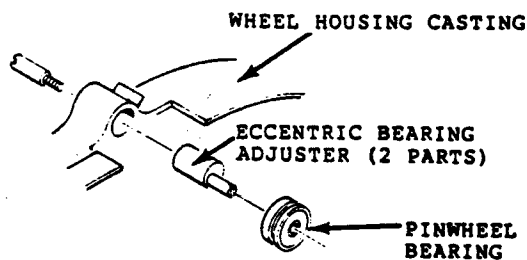

Figure 4-8
- 5) If it is necessary to bring the pinwheel surface out to be flush with the wheel housing casting surface, push the eccentric outward. Tighten in the desired position. See Figure 4-8.